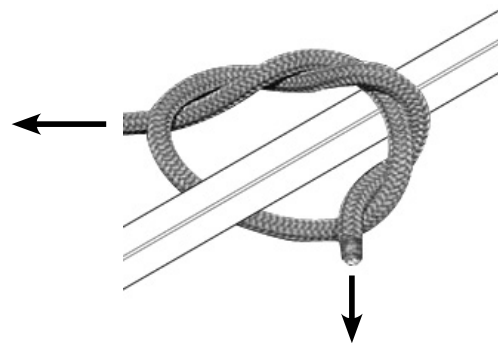

Figure 9
14. a. Tie one end of the provided 9' rope to the link welded onto the stabilizer bar, just in front of the tree hugger. Be sure your double knots are secure. **SEE FIGURE 9.**
- b. Tie one end of each of the provided 15' ropes to the square tubes of tree blade frame, just in front of the tree blades. Be sure your double knots are secure. **SEE FIGURE 9.**